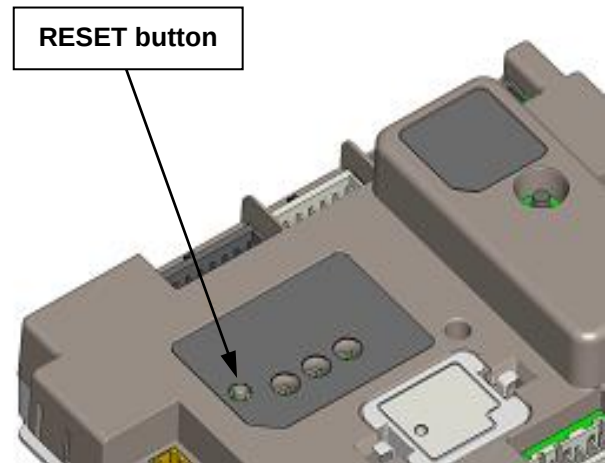

Figure 7: Sola Reset Button
Sola Reset Button - To complete Safety Parameter Verification, you must physically press the Reset button on the Sola controller which is located in the wiring control panel. To do this, remove the front cover on the appliance. Locate the control panel at the bottom of the unit, and remove the cover. **HINT:** Do this before starting verification as you will only have 30 seconds to press the Reset button once you begin. See Figure 7 for exact location of Reset button.
- 5) Press the Reset button on the Sola controller as shown to enable normal burner operation (see Figure 7).